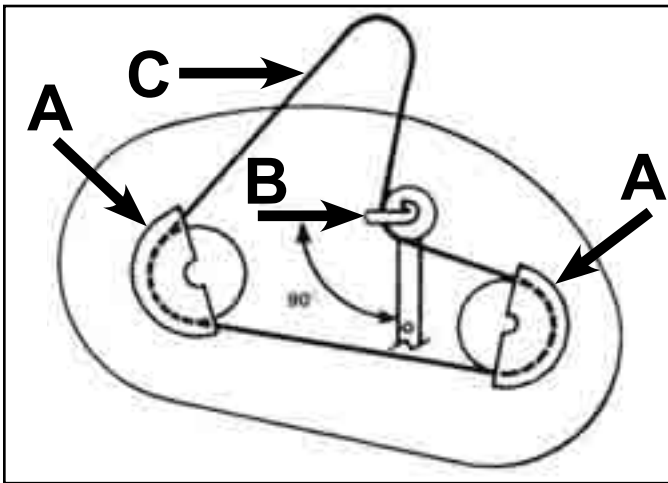

Fig A6 014
2. Remove the pulley cover mounting screws and pulley covers from both blade pulleys (Fig. A6 014 top view).
3. Loosen, but do not remove, the bolt and nut securing the idler pulley and belt guide (Fig. A6 014).